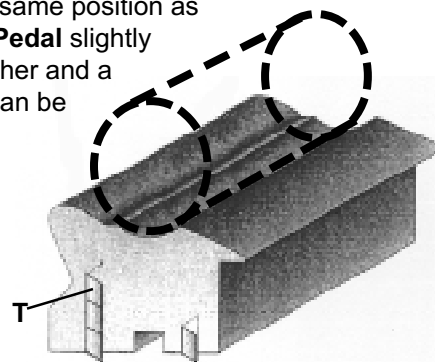

Figure 12
7. If you want a third **Nail** inserted, slide the **Fence** to an intermediate position, re-set the **Front Clamp** and drive another **Nail**. The **Slide Clamp (R)** is activated when the pedal is depressed, so the **Fence** is locked in place during **Nail** insertion.
8. If the moulding is high you may wish to stack more than one **Nail** in the same position as shown, (**T**) in Figure 12. After the first **Nail** is inserted release the **Foot Pedal** slightly and the **Clamps** will remain in place. Then, depress the **Foot Pedal** further and a second **Nail** will be inserted, which will drive the first **Nail** deeper. This can be repeated for a third **Nail**.
9. If you use the **Round Right Angle Pad** for a contoured moulding, it may be necessary to re-position the **Upper Clamp** for each **Nail** insertion as described in step 2 above so the pad makes contact as shown in Figure 12.